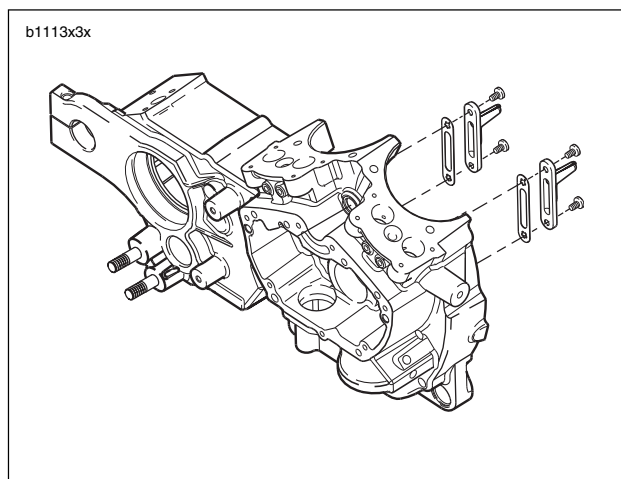

Figure 3-133. Piston Oil Jet Assemblies
1. See Figure 3-133. Remove two TORX screws from each piston jet assembly to free piston jets from right crankcase.